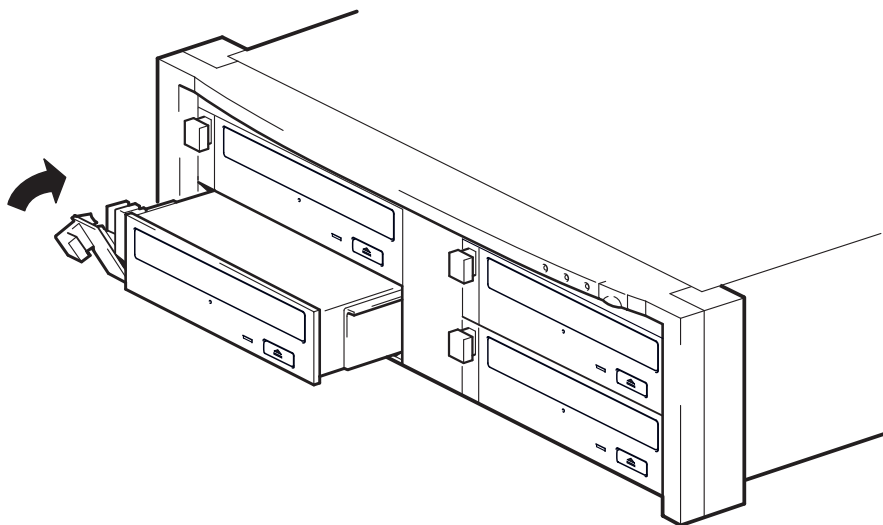

Figure 1b: installing the drive
- 2 Slide the drive into one of the open bays, as shown on figure 1b, ensuring that the guide rails on both sides of the drive locate into the slots on the partition wall. Carefully but firmly ensure the drive is pushed fully in so that the rear connectors are securely seated. The extractor level will close slightly.